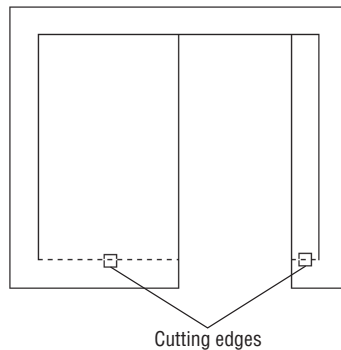

FIGURE 2.23: Lines picked to be cutting edges
2. Pick the two upper horizontal lines next to the opening as your cutting edges, shown in Figure 2.23, and press **↵**.